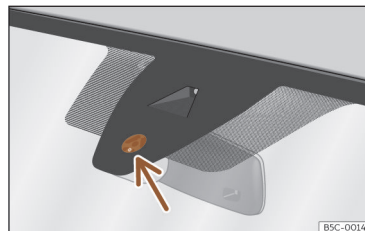

Fig. 111 Sensitive surface of the rain sensor.
The possible causes of anomalies and erroneous interpretations in the sensitive surface area >>> Fig. 111 of the rain sensor are, among others:
- **Dirt:** dry dust, wax, coating on glass (Lotus effect) or traces of detergent (car wash) may reduce the effectiveness of the rain sensor or make it react more slowly, later or not at all. Regularly clean the sensitive surface of the rain sensor >>> Fig. 111 (arrow) and check for possible damage to the wiper blades.